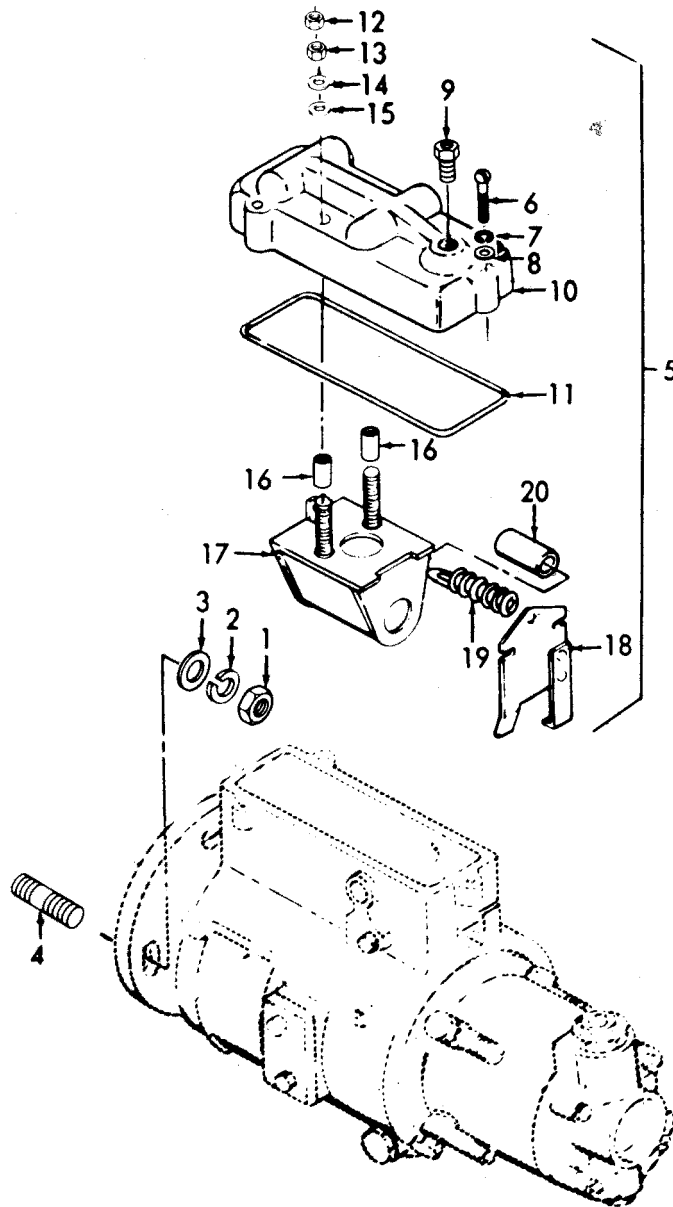

Figure 8-6. Fuel Injection Pump Governor.
- (5) Remove screws (6), timing line cover (7), and gasket (8).
- (6) Turn the engine over in the direction of rotation until the timing line on the governor retainer hub aligns with the timing line on the pump cam.
- (7) Remove bolts and lockwashers securing thrust plate to gear housing cover. Remove thrust plate and discard gasket.
- (8) Remove thrust plug and spring from fuel pump drive shaft.
- (9) Remove nut and washer that secure fuel pump drive gear to pump drive shaft.
- (10) Remove nuts (9) and lockwashers (10).
- (11) Disengage pump from gear housing approximately 1/4-inch. Using a soft hammer, tap injection pump drive shaft to remove pump from drive gear.
- (12) Carefully slide fuel injection pump from the timing gear housing.
- b. Disassembly (Refer to figures 8-6 through 8-12).
- (1) Mount the pump in holding fixture and secure.
- (2) Remove three screws (6, figure 8-6) and remove cover containing solenoid.
LEGEND FOR FIGURE 8-6: